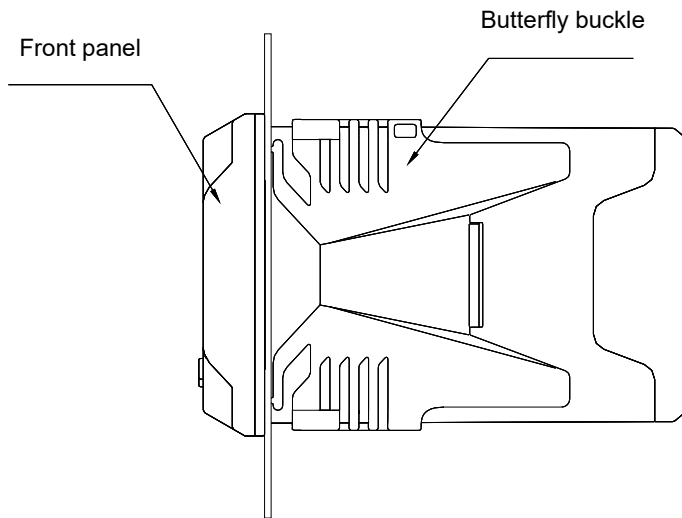

Figure 3 Schematic diagram of meter installation
- Insert the meter into the mounting hole and fasten the butterfly buckle, as shown in Figure 3: